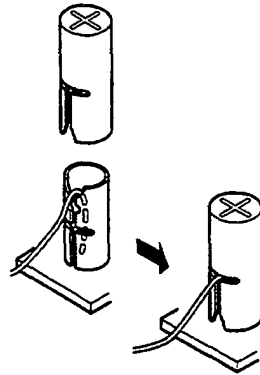

Figure 4-8 Attaching Cables to the ADA-U Unit
3. Remove the cap on the adapter terminal exposing the metal receptacle. Push the cable into the appropriate receptacle and replace the cap. Be sure to line up the slot on the cap with the slot on the metal receptacle to ensure proper contact. (Refer to Figure 4-8 Attaching Cables to the ADA-U Unit.)